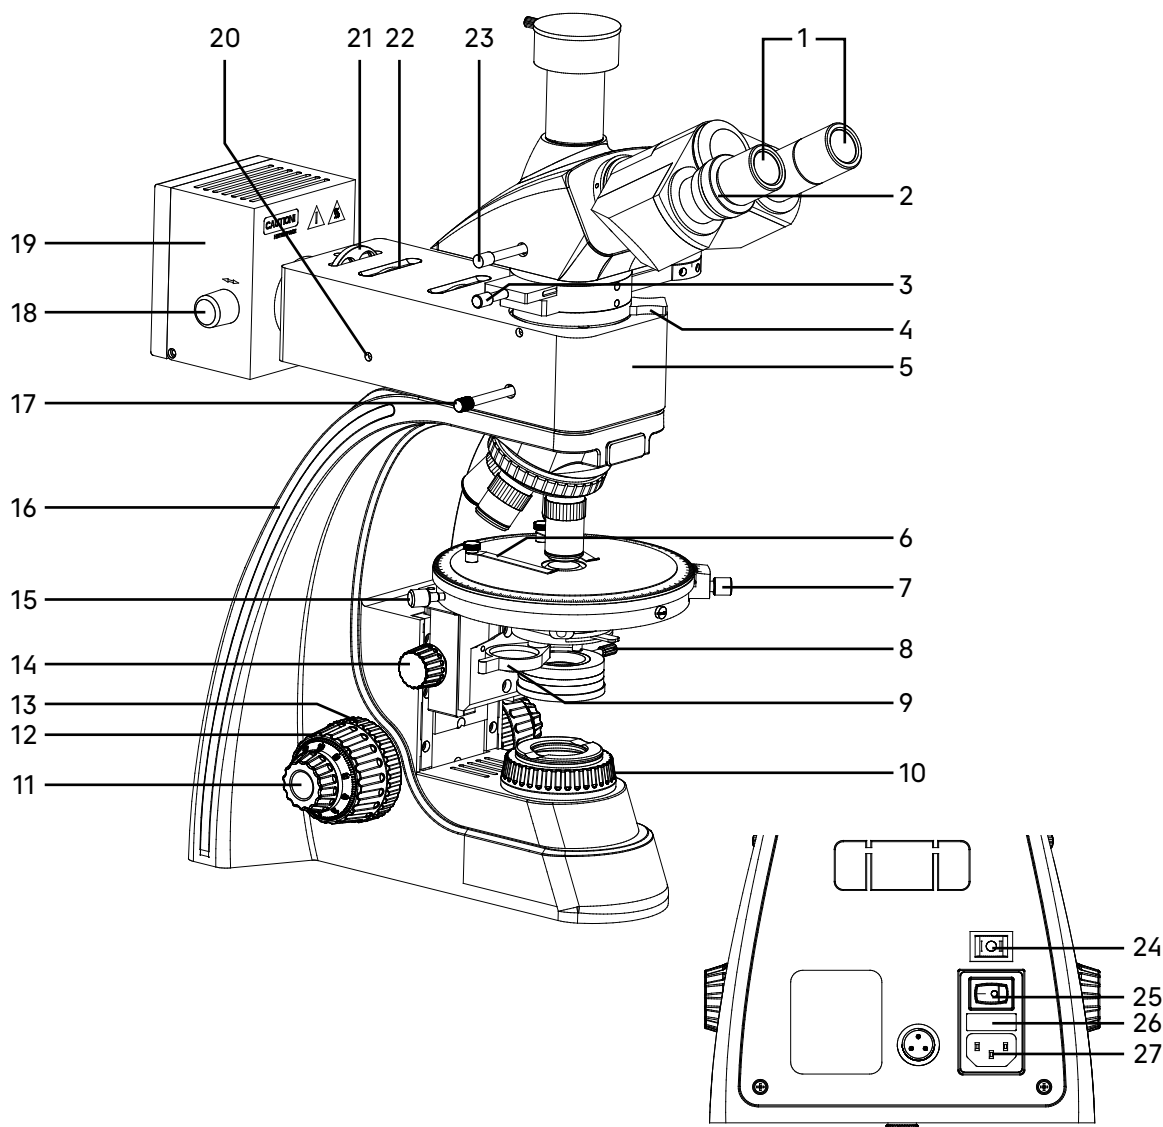
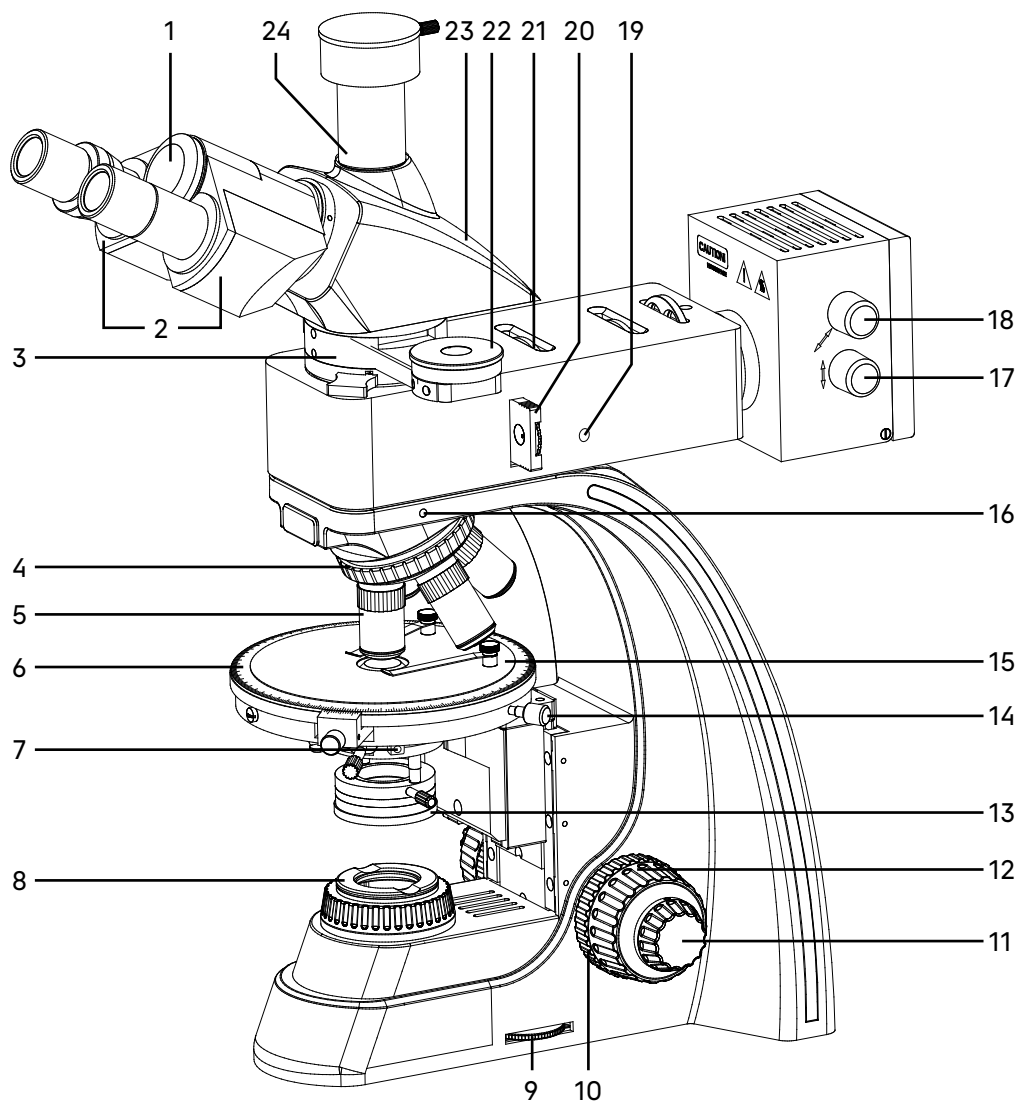

Fig. 1. MAGUS Pol 850 Microscope. View from the left
Fig. 2. MAGUS Pol 850 Microscope. View from the right
The general view of the microscope is given in Fig. 1 and 2.
The stand 16 (Fig. 1) has stable ergonomic design.
- revolving nosepiece 4 (Fig. 2) with objectives 5 (Fig. 2)
- stage 15 (Fig. 2)
- condenser mount (not shown in Fig. 1 and 2)
- collector 10 (Fig. 1).
The back panel of the microscope stand contains an ON/OFF switch 25 (Fig. 1), transmitted/reflected light illuminator switch 24 (Fig. 1), fuse holder 26 (Fig. 1), and a connector for the AC power cord 27 (Fig. 1), which connects the microscope to an AC outlet.
There is a brightness adjustment ring 9 (Fig. 2) on the right of the stand.
Focusing on the specimen is achieved by adjusting the height of the stage. Coarse focusing is performed by rotating the coaxial knobs 12 (Fig. 1, 2) on both sides of the microscope stand.
Fine focusing is performed by rotating the knobs 11 (Fig. 1, 2) on both sides of the microscope stand. Fine focusing allows for more precise focusing on the specimen and re-focusing the microscope to get an accurate image resolution when changing objectives and specimens. Fine focusing scale value: 2 $\mu$ m.
The coarse focusing tension adjustment is performed by the ring 10 (Fig. 2) between the stand and the coarse focusing knob on the right side. The ring adjusts the coarse focusing tension so that the tension is comfortable for the user, but the revolving nosepiece with objectives does not lower spontaneously during operation.
The coarse focusing lock knob 13 (Fig. 1) is located on the left side. Once the coarse focusing is completed, we recommend rotating the knob clockwise as far as it will go. This secures the coarse focusing position to allow for rapid re-focusing after the specimen is changed.
The trinocular head 23 (Fig. 2) provides the visual observation of the specimen image. The microscope head is installed in the slot of the intermediate attachment.
The interpupillary distance is adjusted by rotating the eyepiece tubes in the range of 48–75mm. The distance between the eyepieces matching the observer's interpupillary distance is marked on the adjustment scale 1 on the microscope head (Fig. 2).
An imaging system with a monitor is installed in the trinocular tube 24 (Fig. 2) using a C-mount adapter. You can switch the light path to the trinocular tube using the lever 23 (Fig. 1). The lever has two positions: 100/0 and 0/100.
The microscope kit includes eyepieces 1 (Fig. 1) and an eyepiece with crosshairs. The eyepieces have long eye relief and are designed to work with or without glasses.
The revolving nosepiece 4 (Fig. 2) allows for the installation of five objectives. The free slot is used to adjust the bulb position in the reflected light illuminator and install an additional objective. Objectives are changed by rotating the knurled ring of the revolving nosepiece until the objective fits into place.
There is a transmitted/reflected light switch lever 17 (Fig. 1) on the illuminator body. The "R" position corresponds to the reflected light observations, and the "T" position is for the transmitted light observations.
The aperture and field diaphragms should not be considered as a tool to adjust the image brightness. The brightness should be adjusted by changing the light intensity using the knob 9 (Fig. 2) for adjusting the halogen bulb brightness.